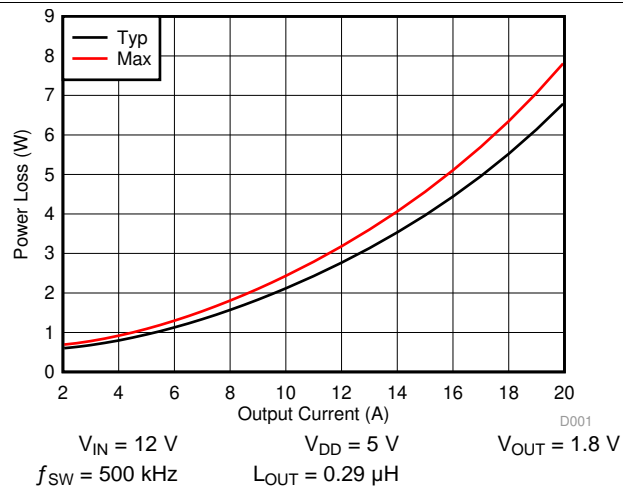
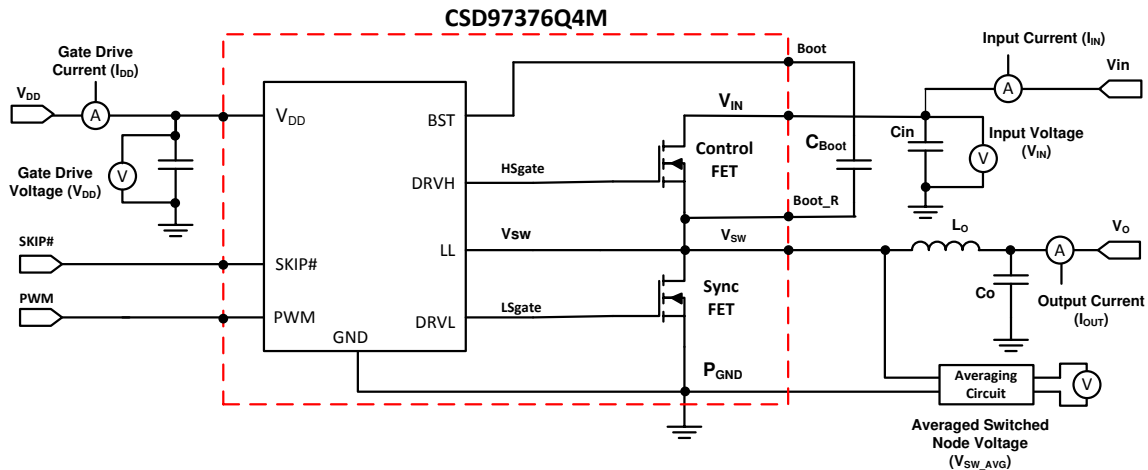

Figure 1. Power Loss vs Output Current
Figure 15. Power Loss Test Circuit
MOSFET centric parameters such as $R_{DS(ON)}$ and Q_{gd} are primarily needed by engineers to estimate the loss generated by the devices. In an effort to simplify the design process for engineers, Texas Instruments has provided measured power loss performance curves. Figure 1 plots the power loss of the CSD97376Q4M as a function of load current. This curve is measured by configuring and running the CSD97376Q4M as it would be in the final application (see Figure 15). The measured power loss is the CSD97376Q4M device power loss which consists of both input conversion loss and gate drive loss. Equation 1 is used to generate the power loss curve.
The power loss curve in Figure 1 is measured at the maximum recommended junction temperature of $T_J = 125^\circ\text{C}$ under isothermal test conditions.
- Typical power loss at 10 A = 2.1 W (Figure 1)